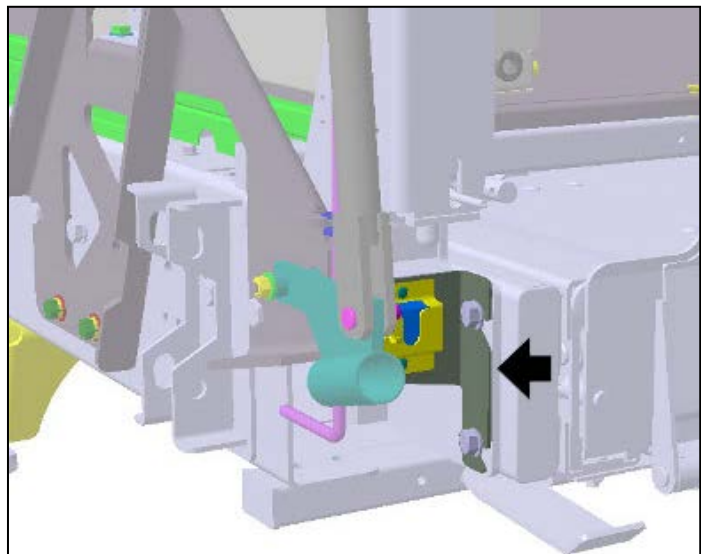

Figure 2
2. Remove the small bracket assembly on the left side of the platform. (Arrow, Figure 2.)